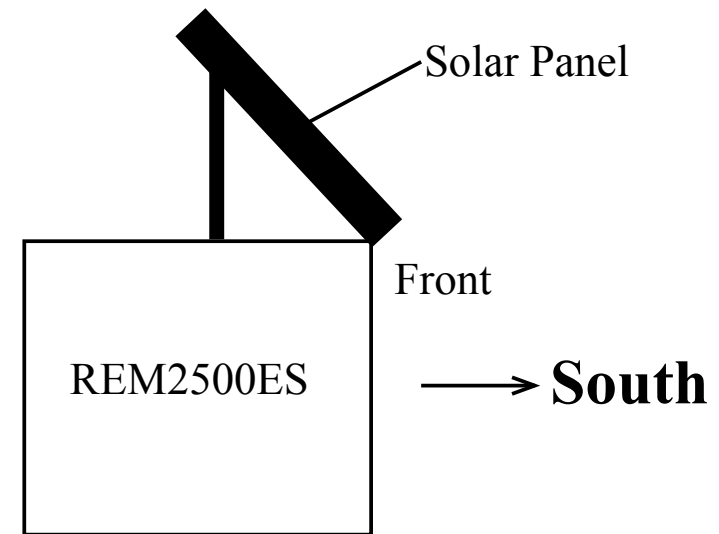

Figure 2
STEP 1. Place the REM2500ES near the well and have the front of the box facing due SOUTH (Figure 2). Reposition the solar panel to its upright position by unbolting the two side hinge arms at each end of the solar panel and reattaching these arms to the top of the box. Place the REM2500ES as close to the well as possible. Place the holding tank within 20 feet of control box. CAUTION: The controller inside the control box is NOT intrinsically safe. Do not operate the REM2500ES in a CLASS I area.